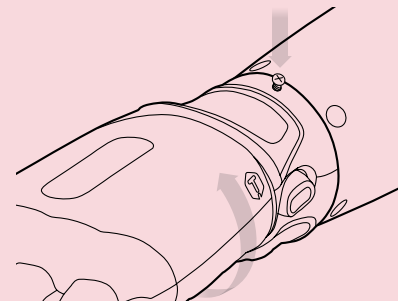

Figure 5: inserting Set Screw (boot to be pulled back).
6. Press the hand firmly into the Lamination Ring and rotate 90 degrees to secure the hand to the rest of the prosthesis (see figure 5 below). The Top Faceplate should be in the centre of the wrist range of motion.
8. Pull the silicone boot back and thread the screw into the hole (see figure 5 below). The screw (which provides an end-stop for the rotation) is intended to bottom out before the head is flush with the collar. Do not overtighten.